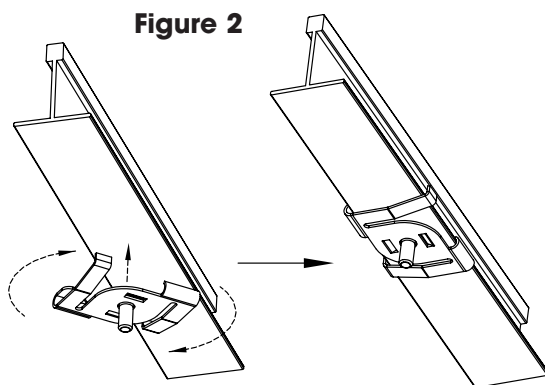

Figure 2
* Put the chosen screw through the hole in the T-bar grid clip (verify screw rotation is prevented by the forms in the T-bar grid clip). Snap the T-bar grid clip / screw assembly over the marks from step 2, and rotate until the grid clip locks into place. (see figure 2)